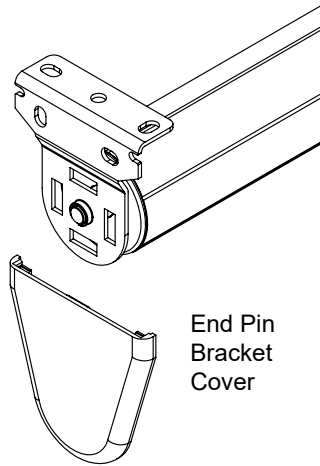

**Figure 11A.** End Pin Bracket
**Step 8.** To install, insert the heavy duty end pin side of the tube into the center hole of the wall bracket shown in **Figure 11A**. While putting pressure on the spring pin, install the motor end onto the other bracket. The spring pressure will allow the tabs on the motor end to seat into the bracket as shown in **Figure 11B**.